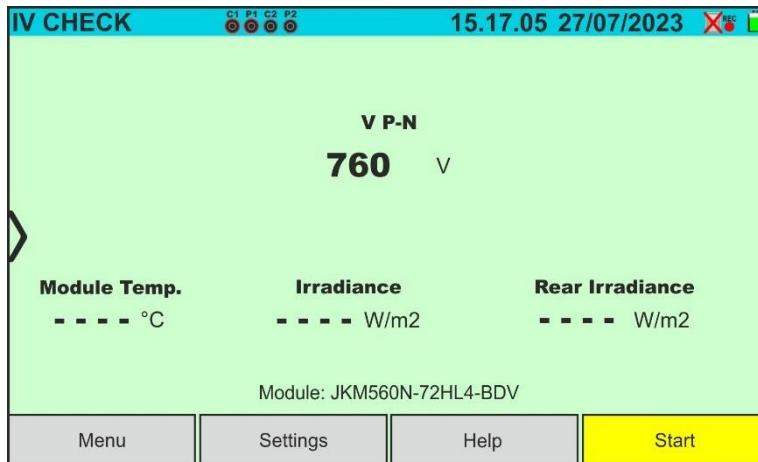

Fig. 74: IVCK test screen with SOLAR03 in synchronous recording on Bifacial modules
10. In the case of **Bifacial** modules, the Fig. 74 screen is shown on the display. The following parameters are indicated: